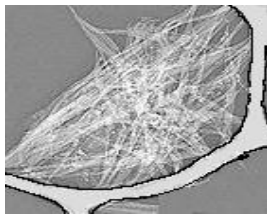
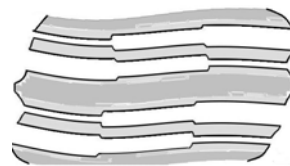

Figure 1
Figure 2
Porous metallic powders are used to produce catalysts, gas storage etc. They are assemblies of particles crossed by canals, with a sponge-like structure. In the Figure 1 is shown a portion of a spherical particle – part of the powder - crossed by pores and surrounded by other particles. The spheres forming a porous powder are crossed by networks of pores as shown in Figure 2. The sketch of pores in Figure 2 is not "at scale".
B. In the syringe - whose needle hole was closed – is inserted the volume $V = 6,00 \text{ cm}^3$ of porous powder and a volume $v_\ell = 4,00 \text{ cm}^3$ of liquid that does not wet porous material. At first, the liquid does not penetrate into porous powder composed of spheres - "sponge", similar in size and porosity, crossed by canals of the kind shown in Figure 2. In the absence of compression, the air occupies the places between the particles and also the channels of different diameter in the spheres. Volumes of these channels are denoted by v_I, v_{II}, \dots in descending order of their diameters (denoted respectively d_I, d_{II}, \dots). During the solving the problem, use the following notations: